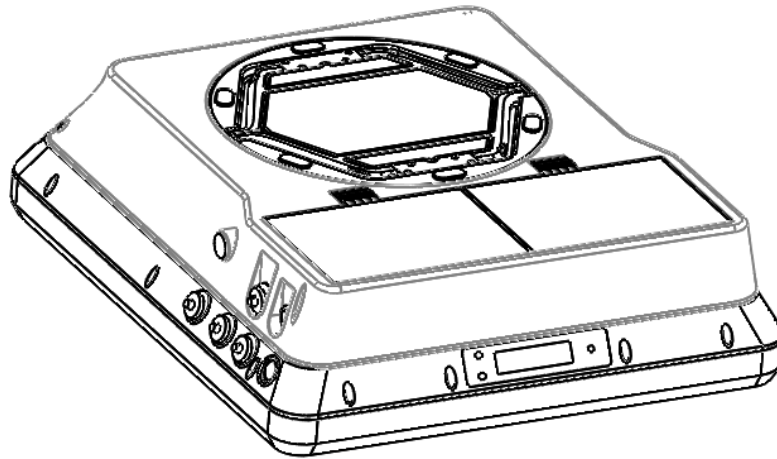

Figure 8-1-5 Terminal panel is closely fit to the Base
6. Stow the base legs as shown in Figure 8-1-5 and put them into the matching box to complete the storage.